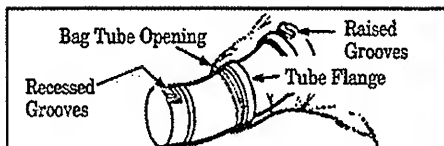
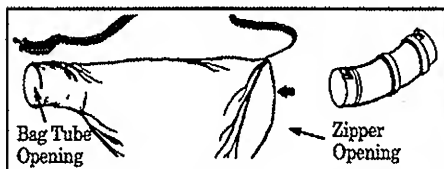

Figure 2
Figure 3
**NOTE:** The end of the Elbow Tube with the recessed Grooves should be inserted through the bag tube opening. See Figure 2.
2. Insert the Elbow Tube through the zipper opening in the vacuum bag (Figure 3). Then, push the end of the Elbow Tube with the recessed grooves through the bag tube opening in the other end of the bag. Figure 3. Make sure the bag tube opening is flush against the tube flange. Figure 2.